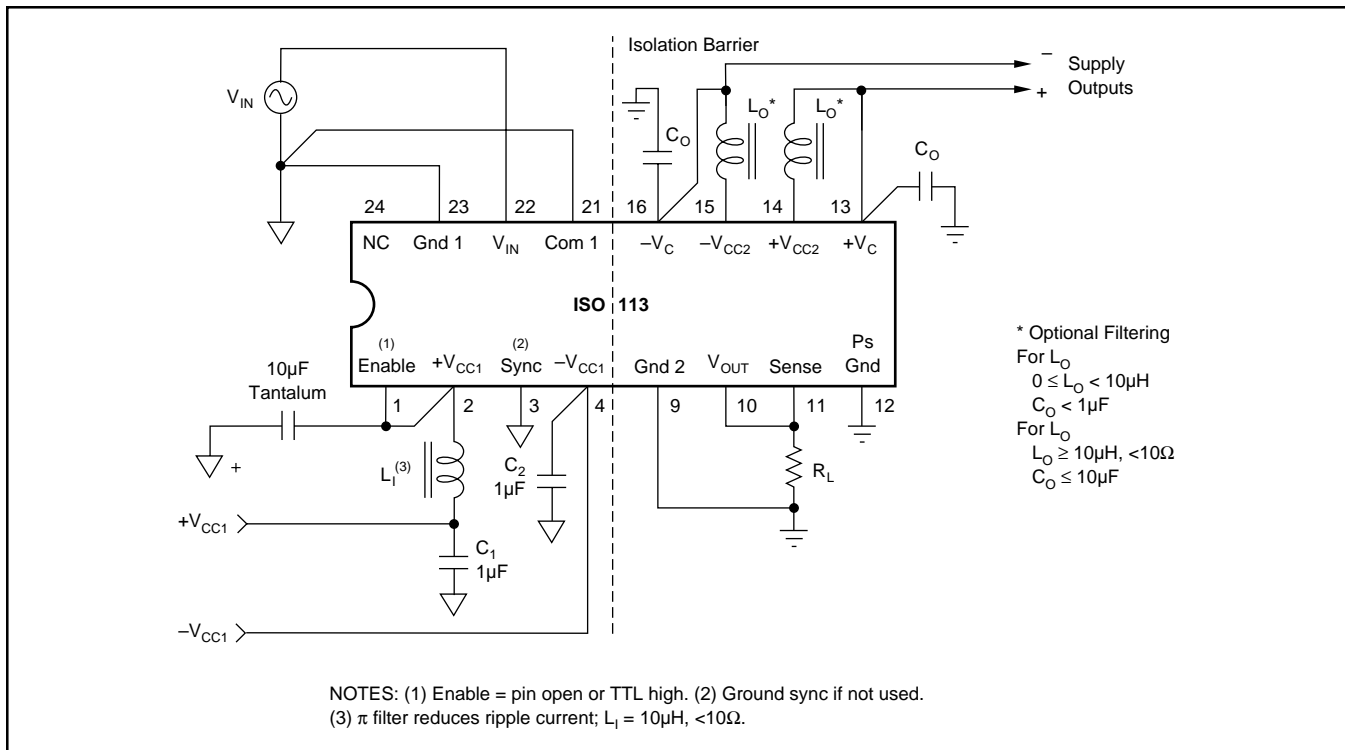

FIGURE 1. Signal and Power Connections.
Figure 1 shows the proper power supply and signal connections. All power supply pins should be bypassed as shown with the  $\pi$  filter for  $+V_{CC1}$ , an option recommended if more than  $\pm 15\text{mA}$  are drawn from the isolated supply. Separate rectifier output pins ( $\pm V_{CC2}$ ) and amplifier supply input pins ( $\pm V_C$ ) allow additional ripple filtering and/or regulation. The separate input common pin and output sense are low current inputs tied to the signal source ground, and output load, respectively, to minimize errors due to IR drop in long conductors. Otherwise, connect Com 1 to Gnd 1, and Sense to  $V_{OUT}$  at the ISO113 socket. The enable pin may be left open if the ISO113 is continuously operated. If not, a TTL low level will disable the internal DC/DC converter. The Sync input must be grounded for unsynchronized operation while a 1.2MHz to 2MHz TTL clock signal provides synchronization of multiple units.
NOTES: (1) PWS750-1 can sync > 20 ISO113s. (2) Bypass supplies as shown in Figure 1.